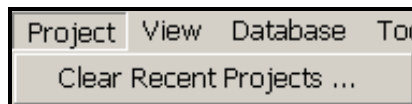

Figure 11. Project Menu
As shown in **Figure 11**, the **Project** menu contains only one (1) choice described below.